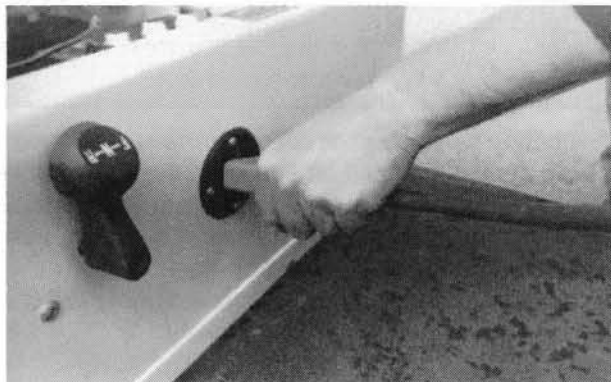

Figure 19
To charge batteries, insert DC plug into receptacle and the charger will turn on two to five seconds later. (See Figure 19.) As long as the charger is allowed to shut off by itself, the batteries will be fully charged and overcharging and undercharging should be prevented.
- DO NOT ROCK OR BEND THE PLUG. To connect the charger plug to the vehicle receptacle, grasp the plug handle and push the plug straight into the receptacle. (See Figure 19.)